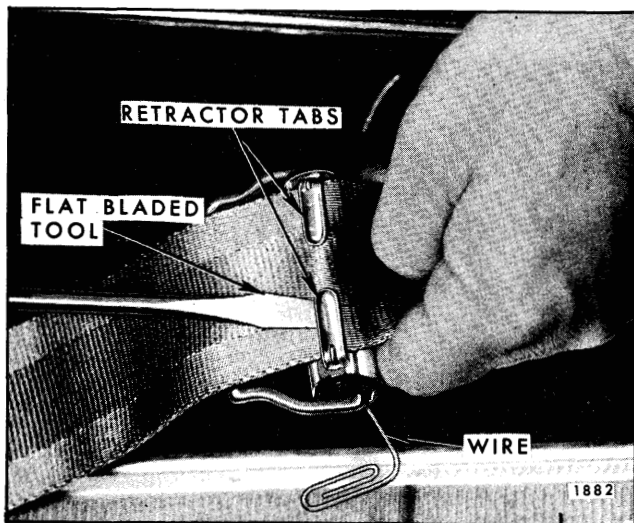

Fig. 10-81—Removal of Bail Type Retractor from Seat Belt
3. Using a flat-bladed tool pry open tabs that secure belt on drum and remove retractor from belt (See Fig. 10-81).